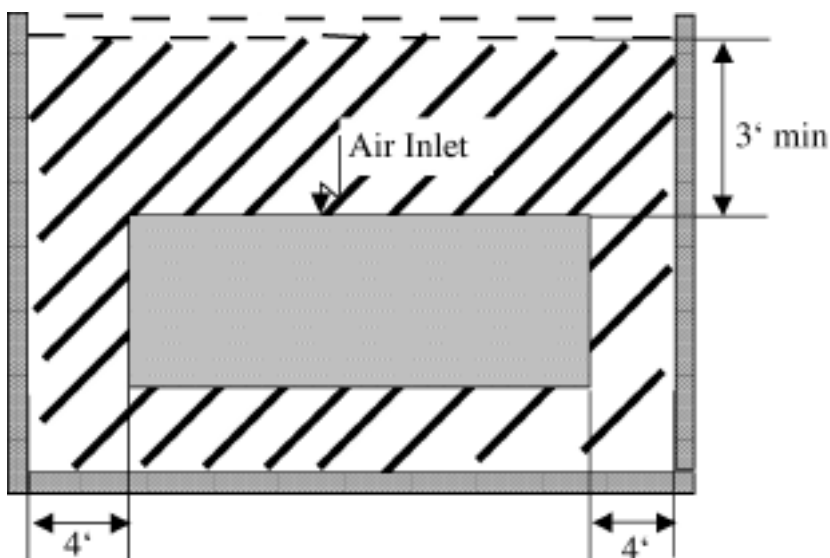

Figure 12: Plan view of unit enclosure with louvered wall & closed top installation
- Install the cooling tower with the limitations shown in Figure 12 for uniform air distribution.